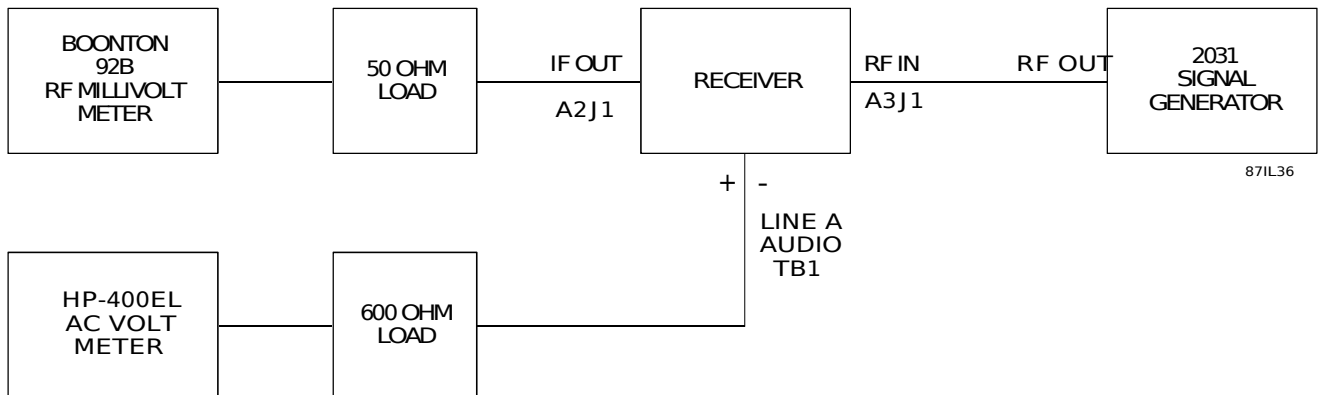

Figure 7-4. Receiver Sensitivity Performance Test Equipment Connection
1. Connect the WJ-8710A Receiver and test equipment as illustrated in **Figure 7-4**.